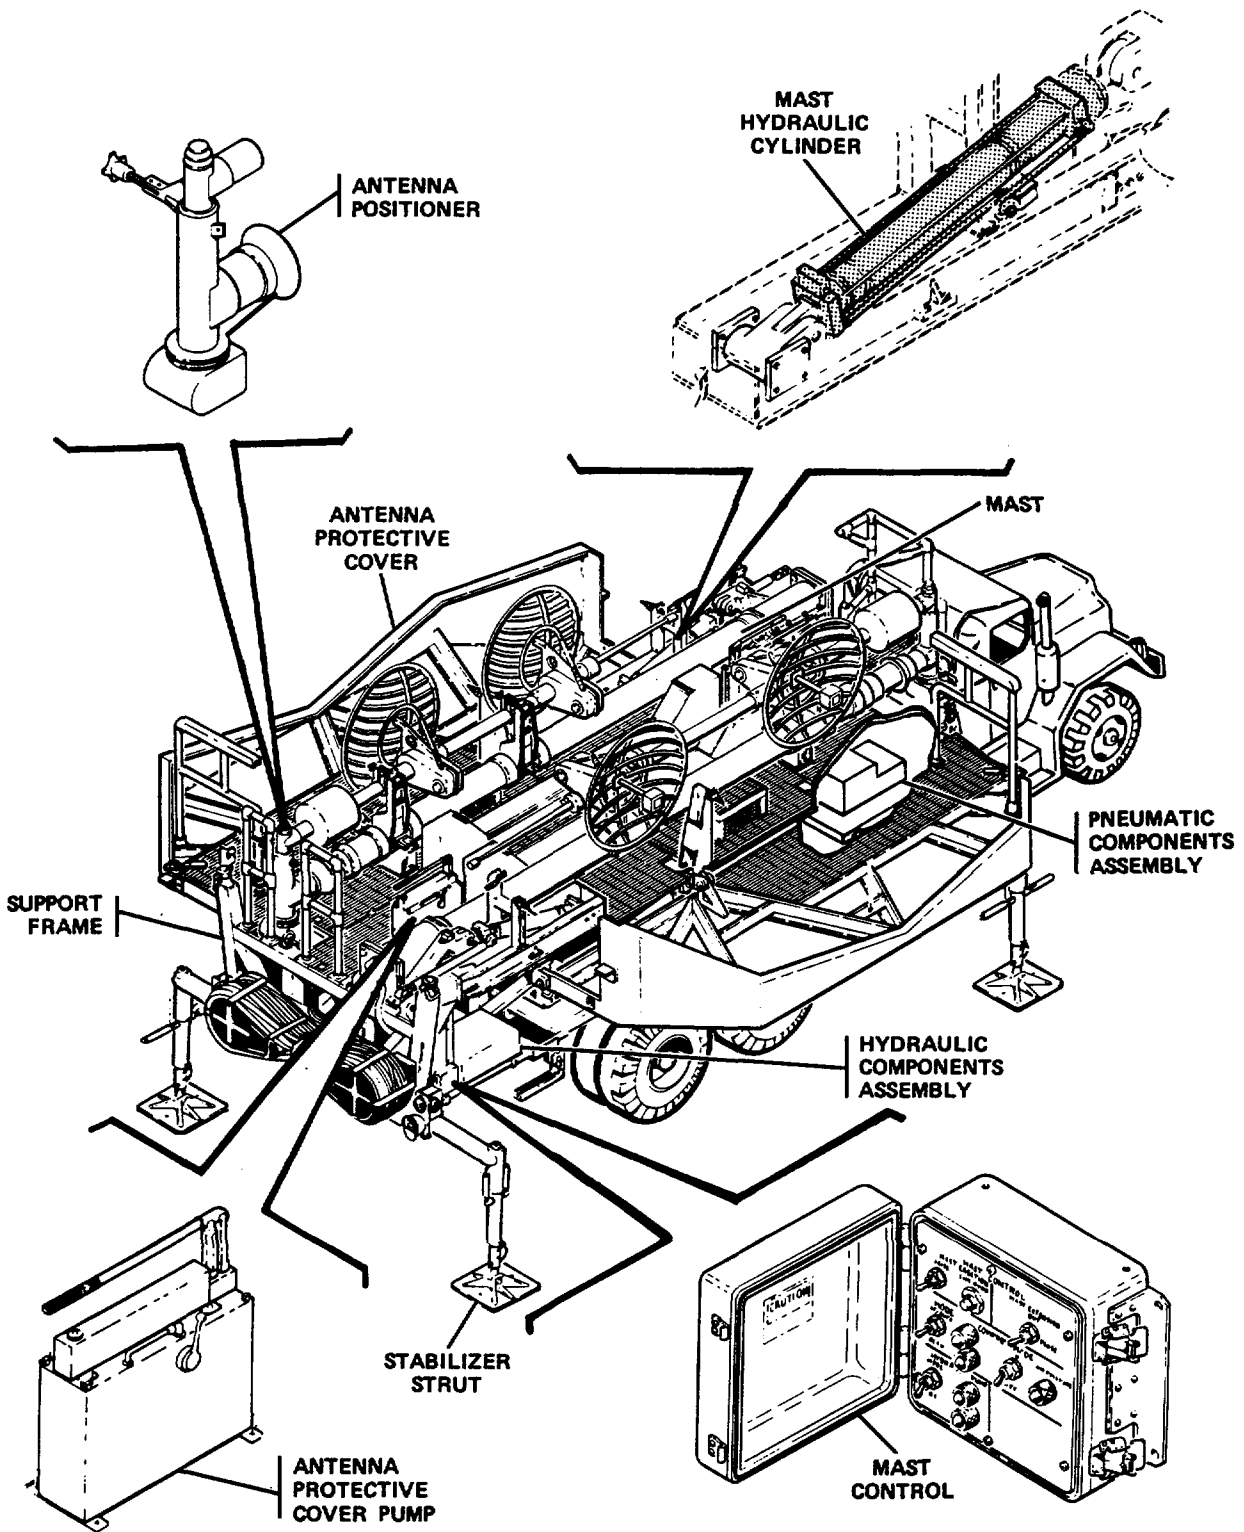

Figure 1-2. Mast Group Major Components
**1-8 LOCATION AND DESCRIPTION OF MAJOR COMPONENTS (FIGURE 1-2)**